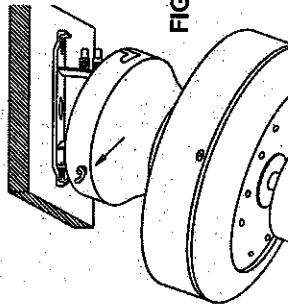

FIG. 4
- Hang the motor on mounting plate with temporary support (a hook) (See Fig. 4)/page 5.
- Carefully push all wiring into canopy. Life off temporary mount and position fan motor on hanger bracket such that attachment screws align with keyed slots on upper side of motor housing secure the fan to hanger bracket with serrated washers and screws provided (See Fig. 4). Ensure a good electrical connection by breaking lacquer finish as this forms the earth.
- The light fitting is a Gu-10 light kit that can only be used 50 watt max. Gu-10 light bulb (provided) (See Fig. 4).